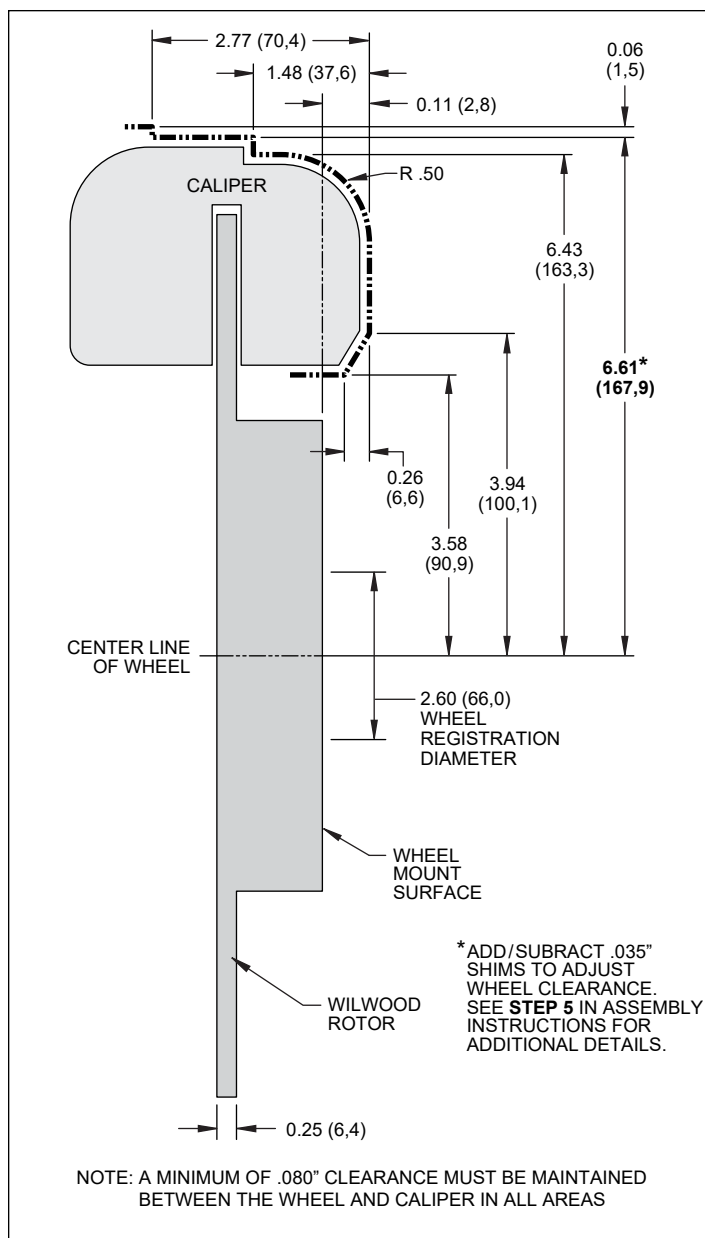

Figure 2. Wheel Clearance Diagram
- Review the Wheel Clearance Diagram (Figure 2, page 4) to verify that there is adequate clearance with the wheels you will be using with the installation.
Verify your wheel clearance using Figure 2.